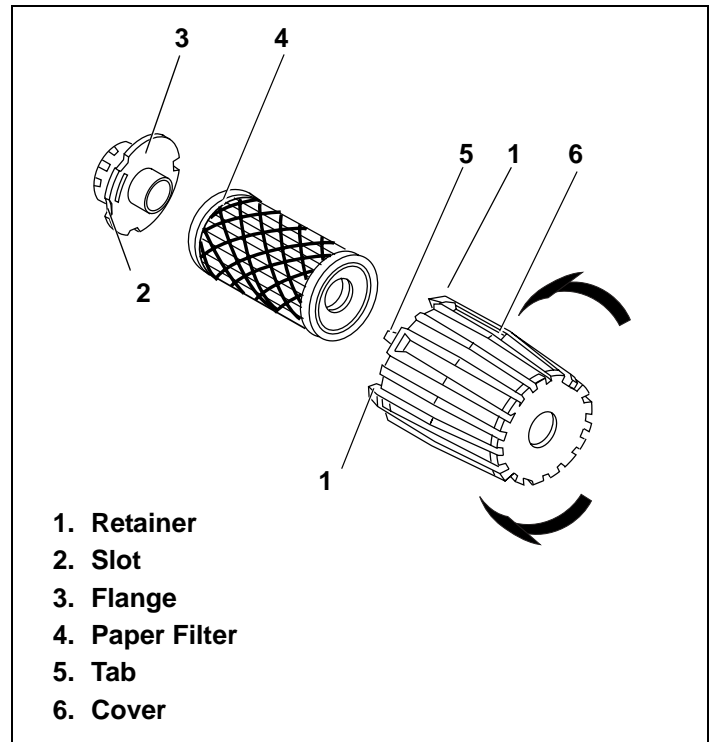

Figure 50. Air Cleaner Type "C" Assembly
1. Turn cover counterclockwise to remove. See Figure 50.